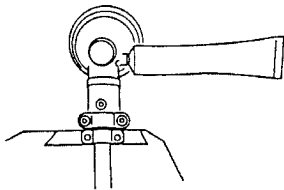

Fig. 36
**Angle transmission (Fig. 36)**